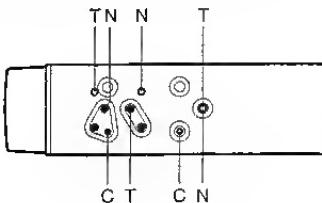

Figure 5
6. The source unit has mounting screw holes for NISSAN (N marks) and TOYOTA (T marks) vehicles, and for Clarion Installation kit (C marks). When you use a mounting kit sold separately, affix the screws to the ● marks above according to the type of the vehicle. (Figure 5)